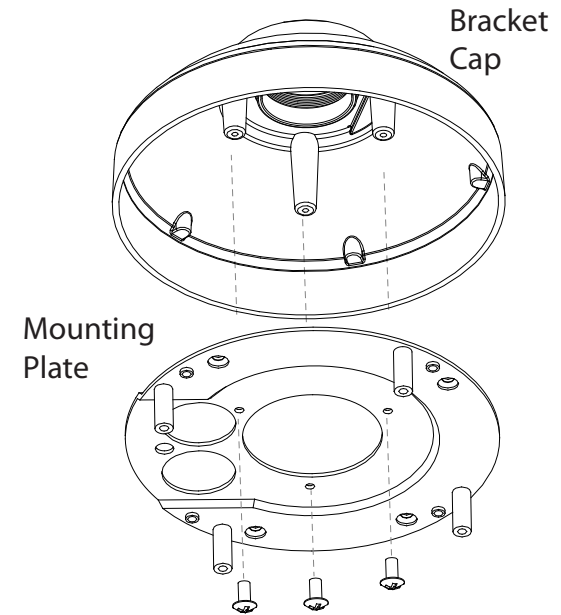

Figure 4.1
1. Attach the mounting plate to the bracket cap using the three screws as shown in **Figure 4.1**.